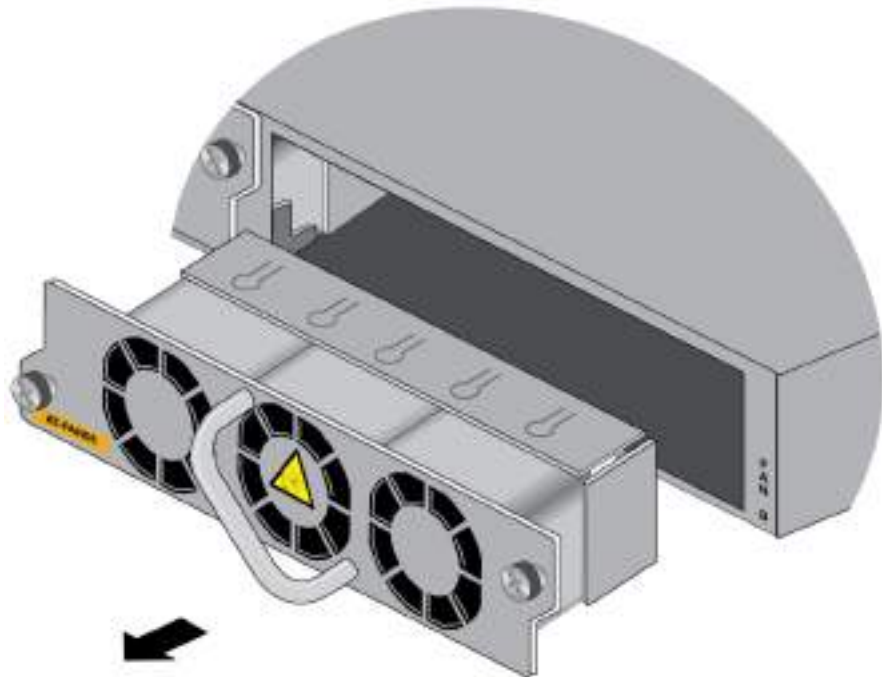

Figure 140. Sliding the Fan Module from the Switch
3. Slide the fan module out of the switch. Refer to Figure 140.